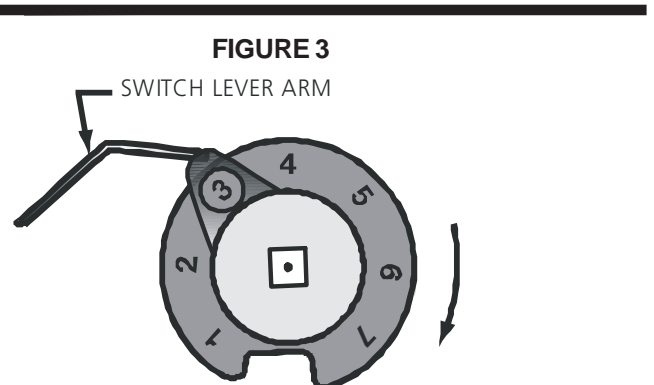

FIGURE 3
- Remove coin slide stop by taking out two screws to the chute bottom (see FIGURE 3).
5. Turn Shaft & Cam Assembly in a clockwise direction until switch lever arm is on top of Tab to assure that both mechanism switches are open (Fig. 3).